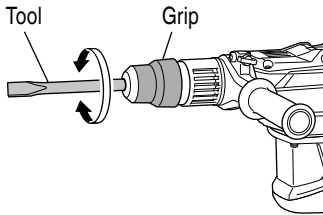

Fig. 15
- (b) Turn the the Grip or Tool as illustrated in Fig. 15 and fix the tool to the desired working direction.